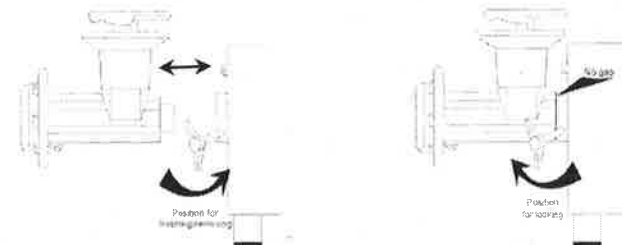

FIG.4 POSITION FOR LEVER HANDLE
1.- Remove the ring (17) turning it counterclockwise and extract the plate (16), Knife (15) and worm (13).
2.- Unscrew the headstock knob (7) (see Fig 4) to be able to remove the headstock (10).
2. Using a soft bristle brush not provided -See Fig 4, clean with adequate detergent each component, specially inside headstock (10) to eliminate waste and debris of food.
5. It is important after doing this procedure, to lubricate the knife (15) and plate (16) with the included mineral oil. Assemble again.